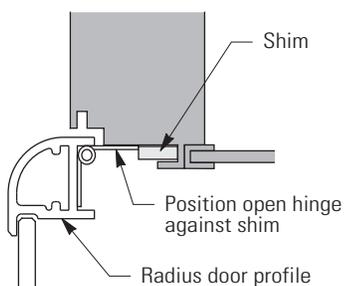

Fig. 3
Step 12 - New hinge on new door must be opened 90° so that door aligns with cabinet in an open position. (See Fig. 3)